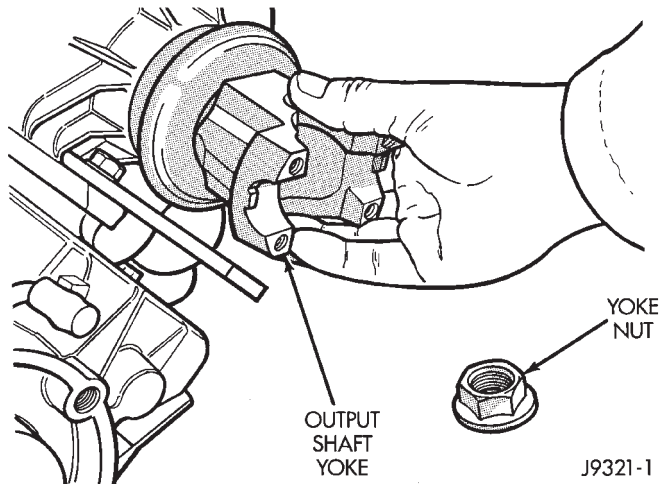

Fig. 23 Front Yoke Removal
(1) Position transfer case on shallow drain pan. Remove drain plug and drain lubricant remaining in case.
(2) Remove front yoke nut and remove yoke (Fig. 23).